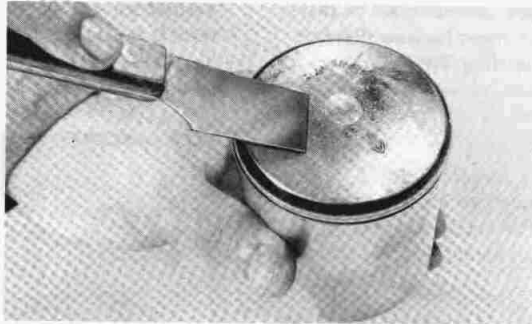

Fig. 3-4-10
2. Remove carbon deposits from piston crown. (Fig. 3-4-10)
2. Décalaminez la tête de piston. (Fig. 3-4-10)